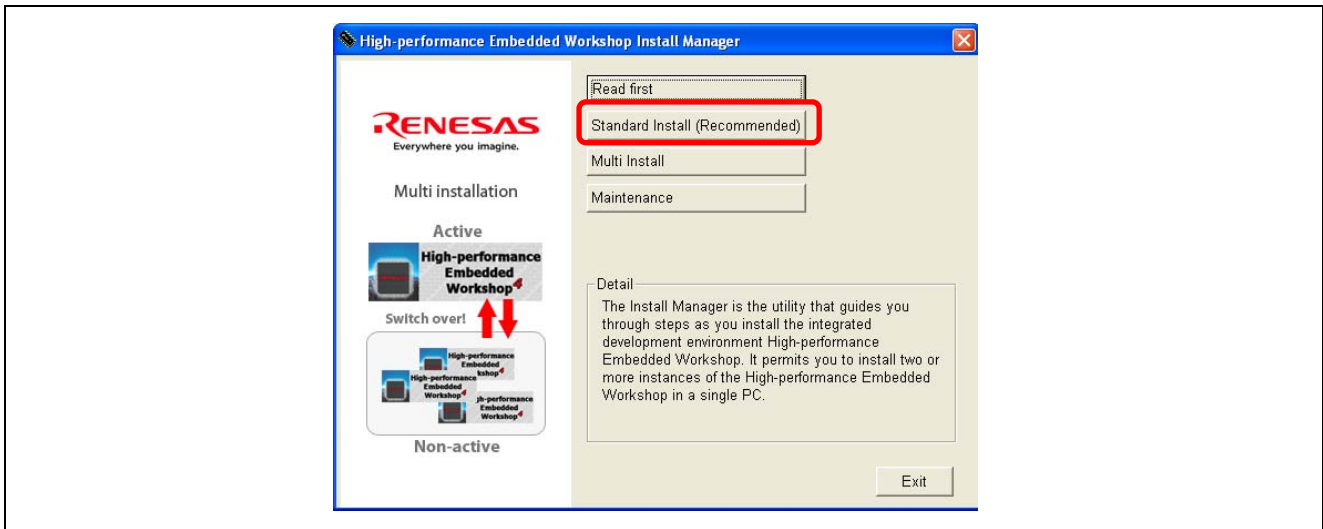

Figure 3.2 High-performance Embedded Workshop Installation Manager
- (3) Executing HewInstMan.exe opens the [High-performance Embedded Workshop Install Manager] window shown in Figure 3.2.